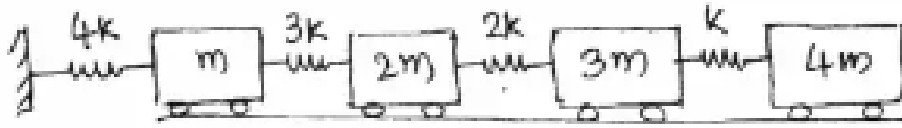

Fig.2
9. Use the Stodola method to determine the lowest natural frequency of four degrees of freedom spring mass system as shown in Fig.2